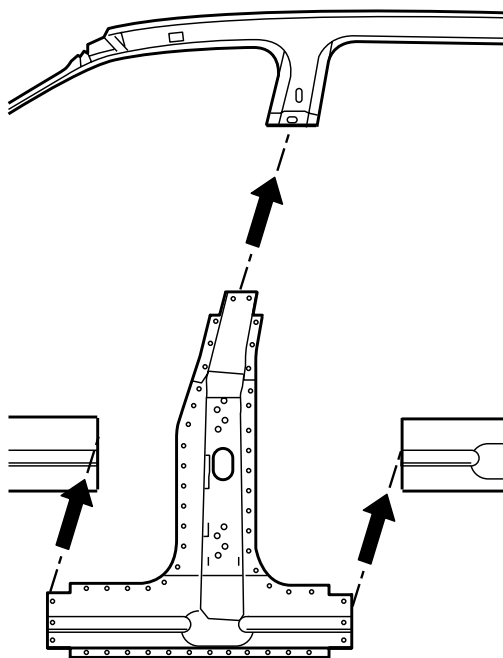

Fig. 1-17 — 2000 DeVille Inner Center Pillar – Installation
3. Clamp part in position. Check for proper fit (Fig. 1-17).